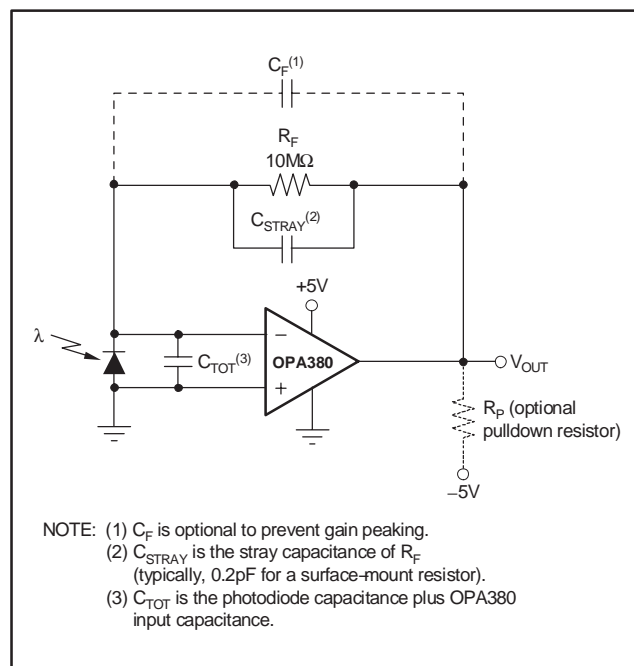

Figure 5. Transimpedance Amplifier
(1) 300-hour life test at $150^\circ C$ demonstrated randomly distributed variation approximately equal to measurement repeatability of $1\mu V$.
(2) Tested with output connected only to R_p , a pulldown resistor connected between V_{OUT} and $-5V$, as shown in Figure 5. See also applications section, *Achieving Output Swing to Ground*.
The key elements to a transimpedance design are shown in Figure 5: